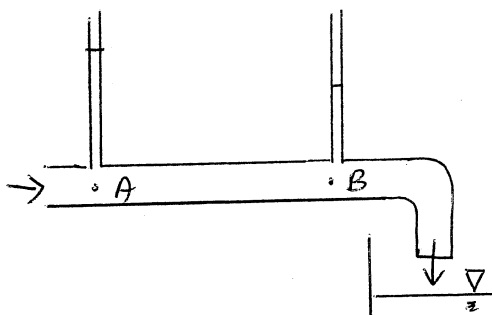

Figure 4
4) A student plans to use the apparatus shown in Figure 4 to estimate the friction factor of a pipe. Simple manometers are connected to points A and B on the pipe as shown and the discharge is collected in a tank of uniform cross-section. The measurements to be taken are the heights of the water levels in the manometers and the time taken for the water level in the tank to change by a certain value.